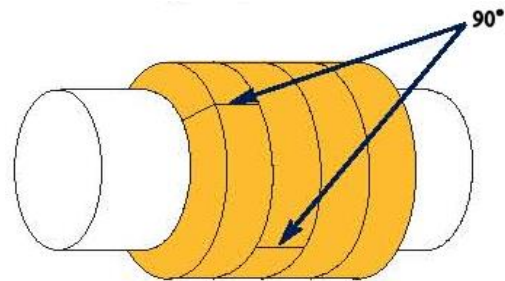

Figure 7. Packing Alignment
6. Check the shaft (006) for nicks and score marks; repair or replace as necessary.
8. Install the first ring of packing (013) with joint at approximately the 1 o'clock position (30° right of vertical). Refer to Figure 7 for packing alignment.